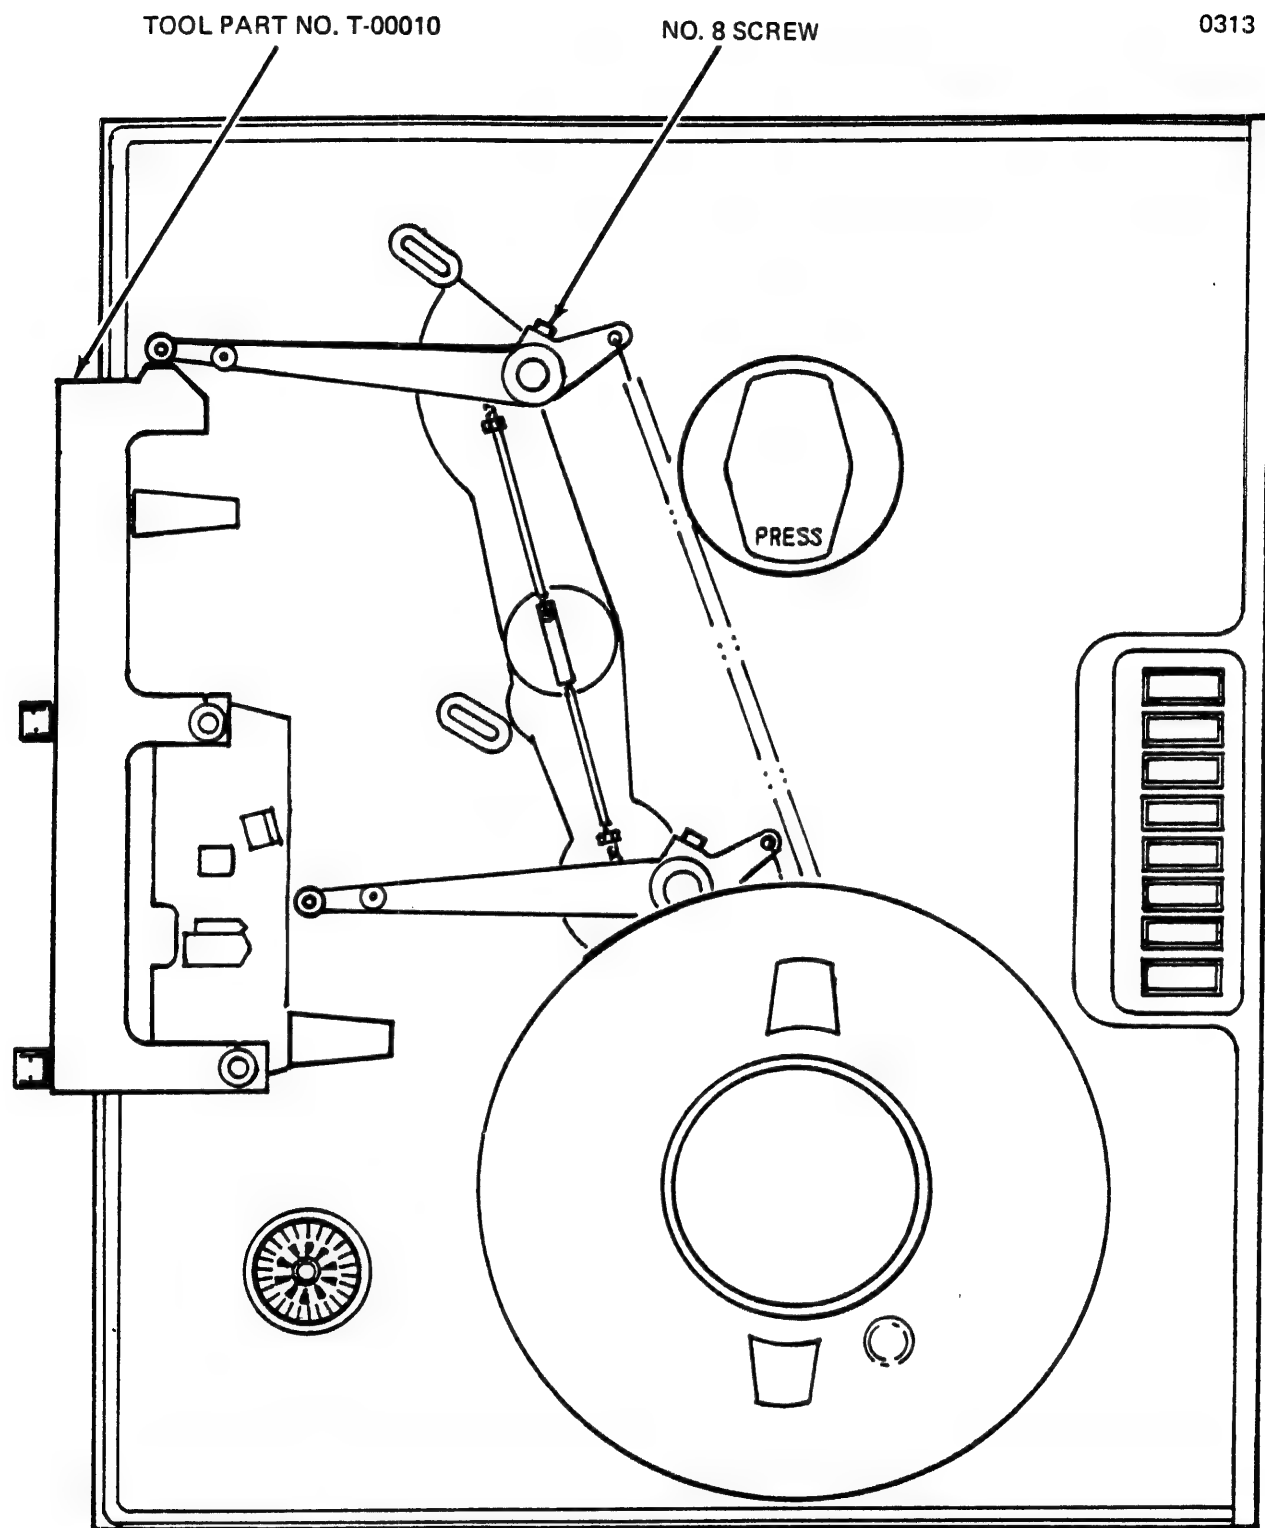

Figure 4-18. File Reel Arm Guide Alignment
4.4.2.1.1 File Reel Swing Arm Roller Guide. Basic mechanical alignment of this guide is simplified through the use of a special tool, Tool P/N T-00010, the use of which is shown in Figure 4-18. Use the following procedure:
- d. Remove reverse tracking roller guide, and loosen set screws that hold file and fixed reel fixed roller guides (see Figure 4-18).